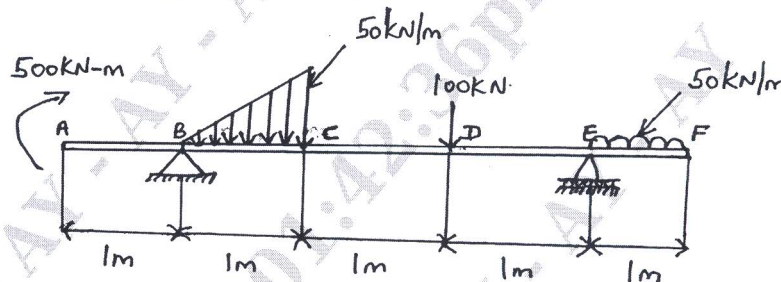

Fig Q6(c)
- c. Draw SFD and BMD for the loaded beam shown in Fig Q6 (c). Mark the salient point, locate the maximum bending moment and point of contraflexure.